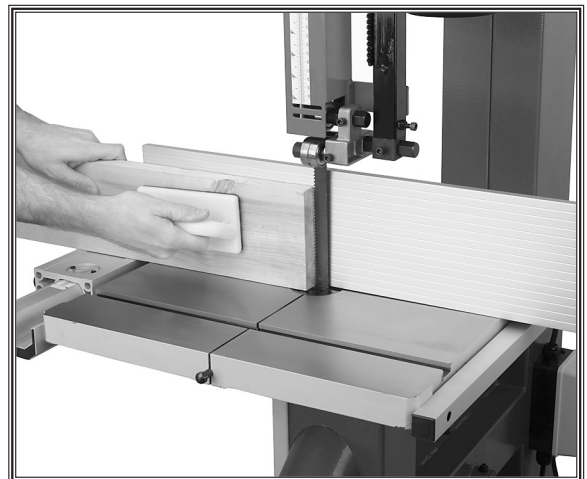

Figure 42. Typical resawing operation.
"Resawing" (**Figure 42**) is cutting a workpiece into two or more thinner workpieces. Use the widest blade possible when resawing—a wide blade cuts straighter and is less prone to blade lead (see **Page 40**). For most applications, use a blade with a hook- or skip-tooth style. Choose blades with fewer teeth-per-inch (from 3 to 6), because they offer larger gullet capacities for clearing sawdust, reducing heat buildup and reducing strain on the motor.
5. Using push paddles and a push stick, maintain workpiece pressure against the fence and table, and slowly feed the workpiece into the moving blade until the blade is completely through the workpiece (see **Figure 42**).